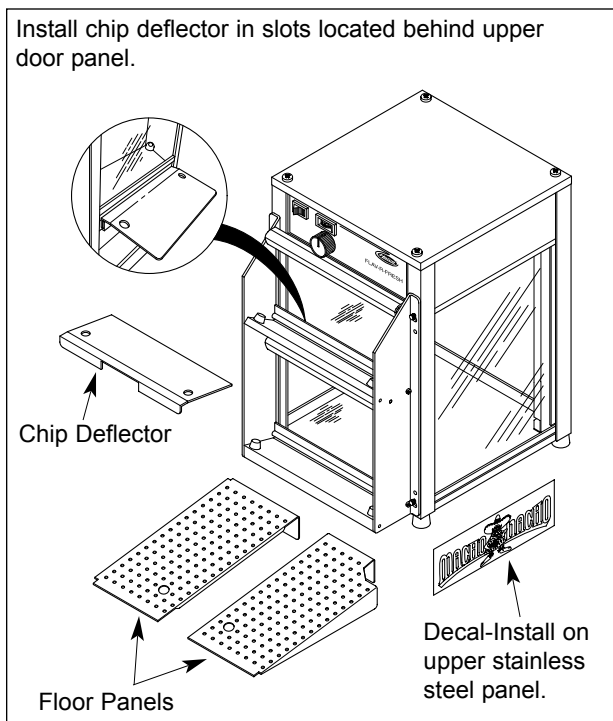

Figure 5. Set-Up (FDW-1-MN shown)
2. Install the chip deflector inside, behind the upper door. See Figure 5.